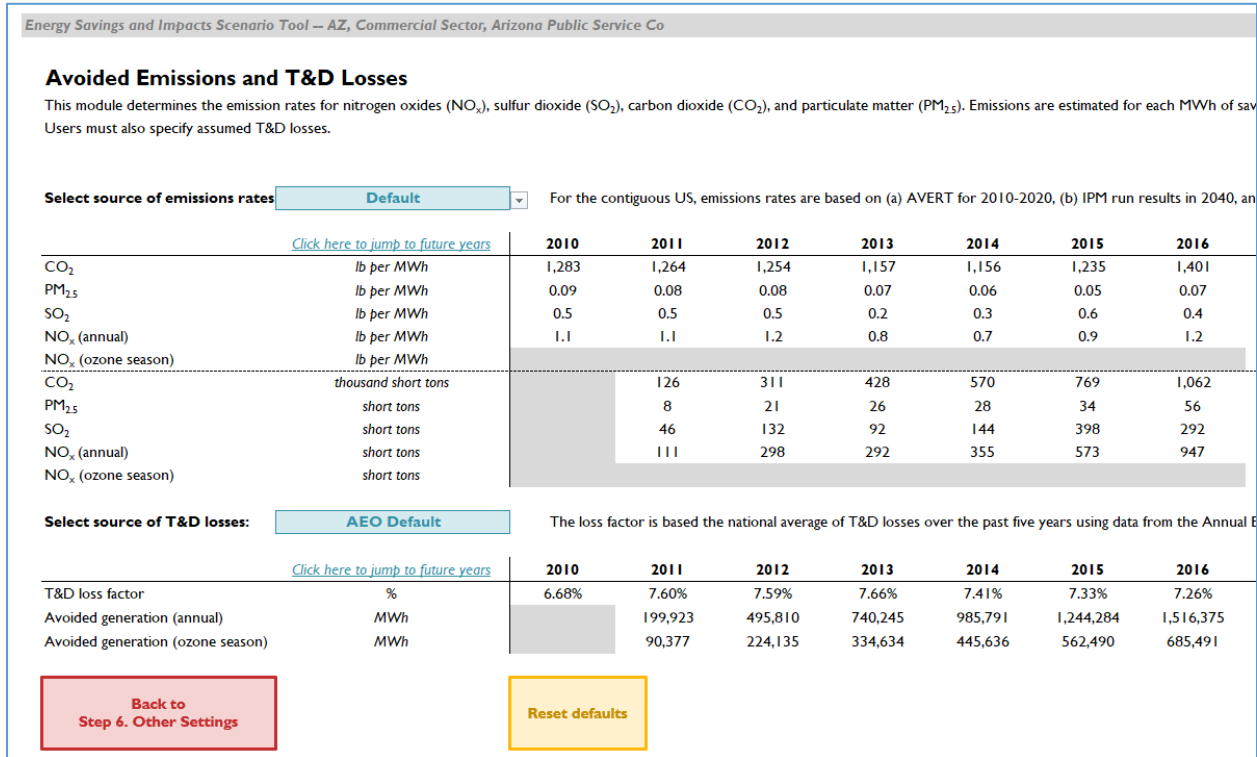

Figure 5. “Avoided Emissions and T&D Losses” table in the ESIST tool
- If you click the “Emissions Impacts” box, the “Avoided Emissions and T&D² Losses” table will display (see **Figure 5**, below).